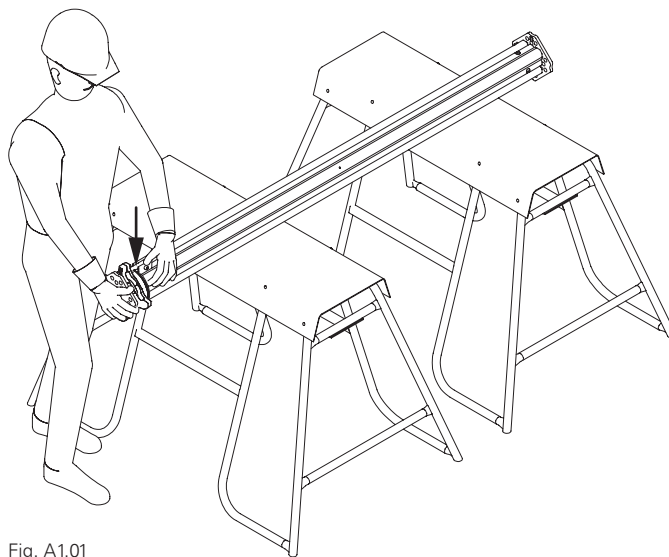

Fig. A1.01
Place the MULTIPROP MP (1) with retracted inner tube on an appropriately positioned trestle/pallet. (Fig. A1.01)